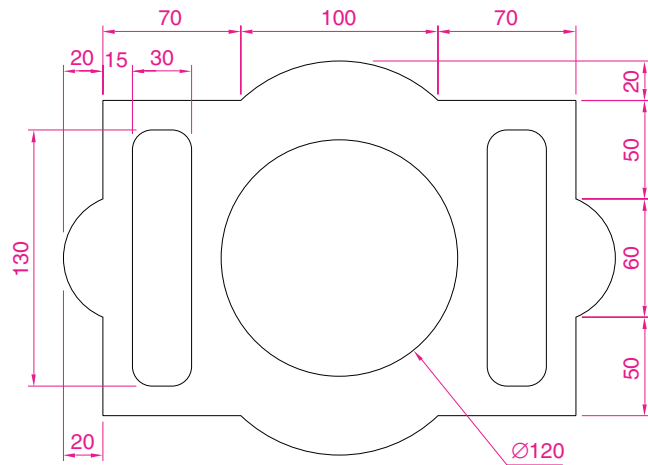

Fig. 6.44 Exercise 4
4. Construct and dimension the drawing in Fig. 6.44.